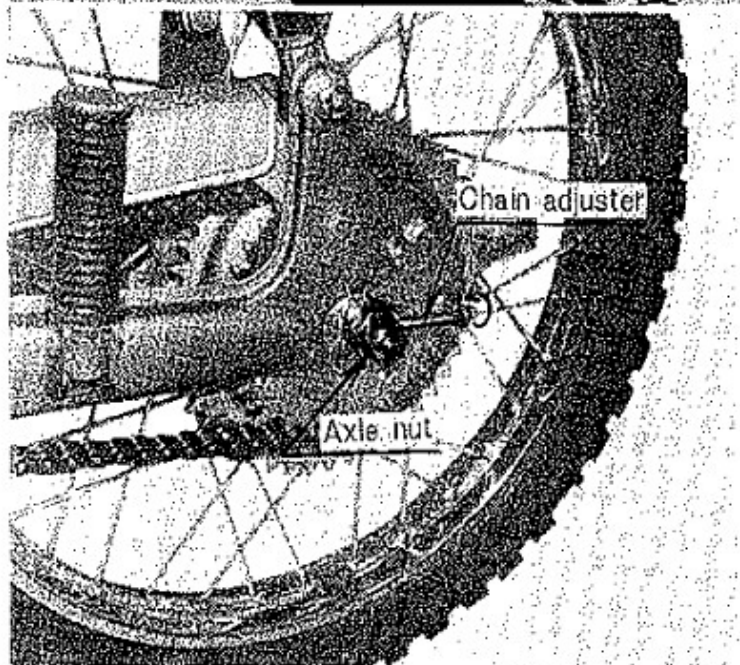

Fig. 10
- b) To adjust, loosen rear axle nut adjust with the chain adjusters on the ends of axle, turning them back or forward an equal amount to keep correct alignment chain wheels. (Fig. 10)